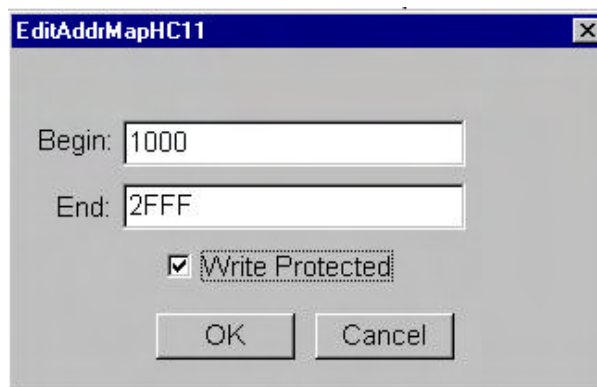

Figure 41. Add Dialog Box
2. From the **Mem Map Config** tab, click **Add** to add a memory range. The **EditAddMapHC11** dialog box opens (Figure 41).